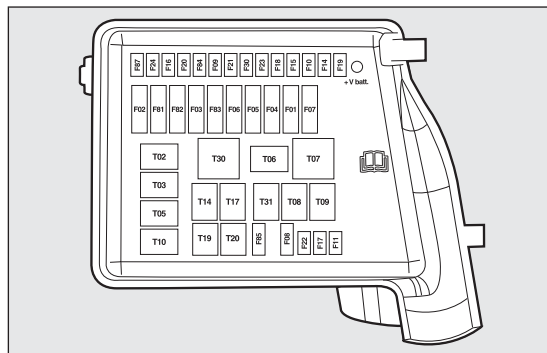

fig. 130
The number identifying the electrical component corresponding to each fuse is on the back of the cover fig. 130.
**Engine compartment fuse box fig. 130****FUSE****AMPS**